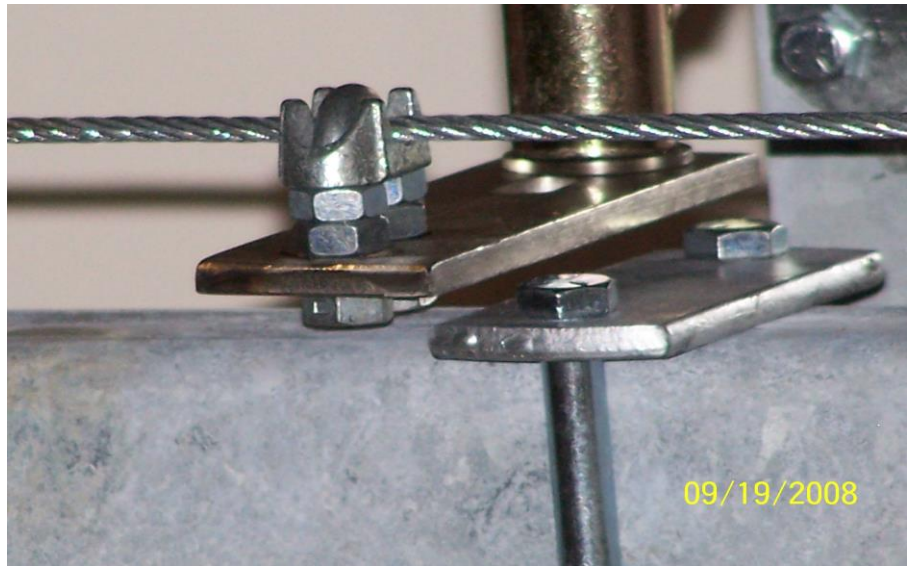

Figure 6
6. Remove the cable clamp and reinstall as shown (Figure 6) with the cable loosely secured in the clamp.